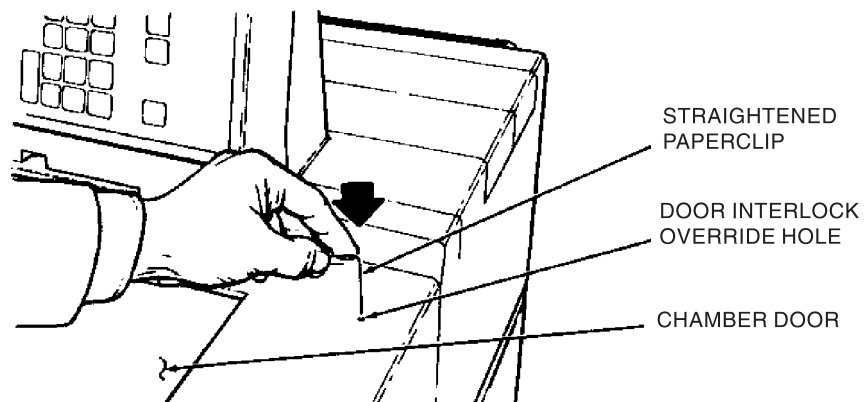

Figure 7-3. Door Interlock Override
Wait until the rotor has coasted to a stop. When the rotor stops, insert a straightened paperclip in the door interlock override hole and push down (see figure 7-3). Open the chamber door.
5. Insert a straightened paperclip in the door interlock override hold (figure 7-3). Open the door.